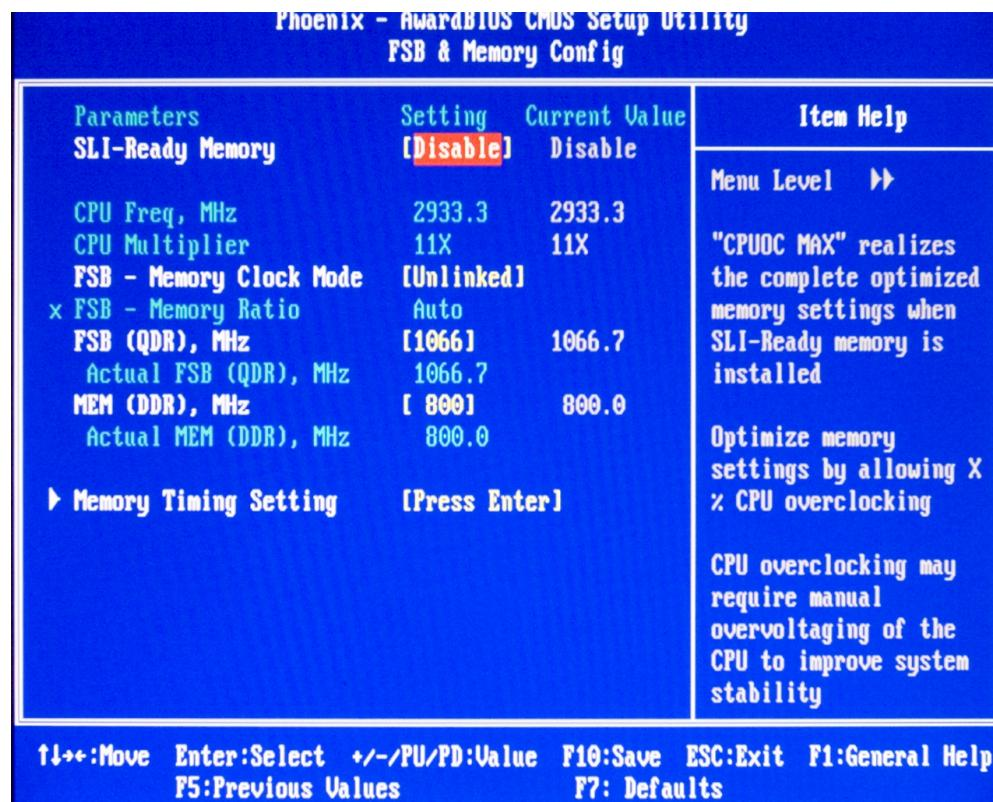

Figure 7. Disable SLI-Ready Memory
3. Make sure **SLI-Ready Memory** is set to **Disable** as shown in Figure 7.
3. Make sure **SLI-Ready Memory** is set to Disable as shown in Figure 7.